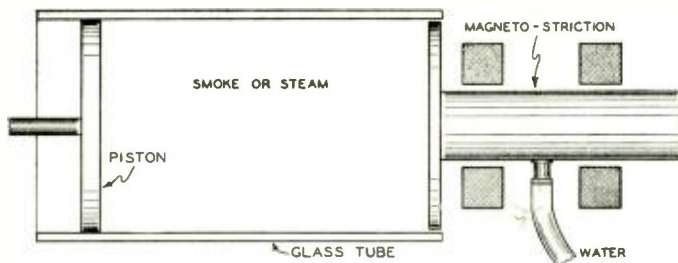

Fig. 1. Using a magnetostriction ultrasonic generator to coagulate steam or smoke.
**Fig. 1.** Laboratory assembly of apparatus used for determining hearing aid gain by a cavity pressure method. Essential items include (left to right) driver oscillator, the source cavity and preamplifier source tube, loudspeaker element, electronic amplifier-voltmeter, and in right foreground, the "artificial ear" and its preamplifier, on which the hearing aid receiver is mounted. The power level recorder (right) is used here for automatic recording of data. The sound pressure level in either the source cavity or "artificial ear" can be recorded by switching the output of one or the other of the preamplifiers into the amplifier and recorder input.